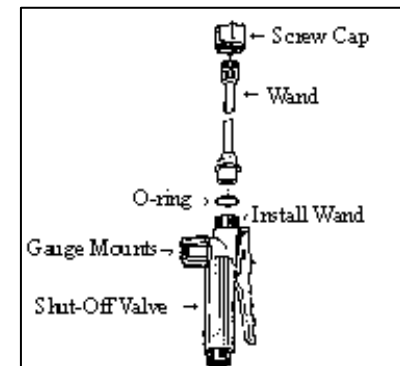

Fig. 39. Wand Assembly.
- ☐ a. Insert wand into shut-off valve as shown (Fig. 39).
- b. Tighten the screw cap clockwise onto the shut-off valve (Fig. 39).